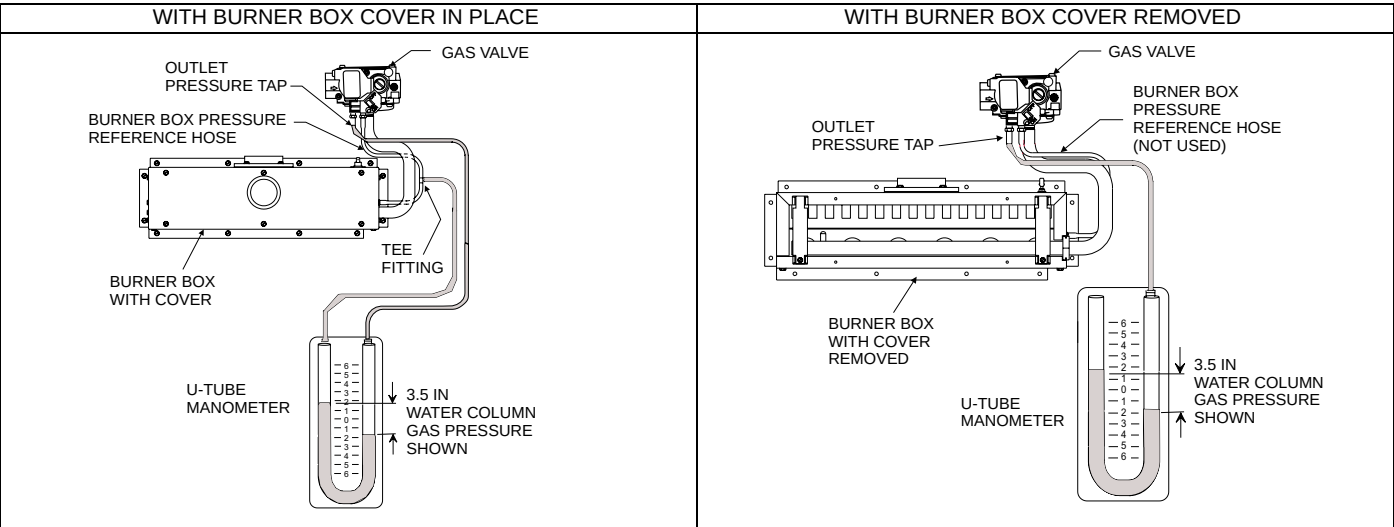

FIGURE 29: Reading Gas Pressure
- E. Use the 5/16" (7.94 mm x 1/8" (3.175 mm) reducing coupling and a 4" (101.6 mm) piece of 1/8" (3.175 mm) tubing to connect the positive side of the manometer to the gas valve pressure reference port. Refer to Figure 29 for connection details.
Remove the screws securing the burner box front cover plate. Remove the cover. The gasket and may stick in place. Connect the positive side of the manometer to the gas valve as described in E above. There will be no second connection to the manometer, as it will reference atmospheric pressure. Refer to Figure 29 for connection details.